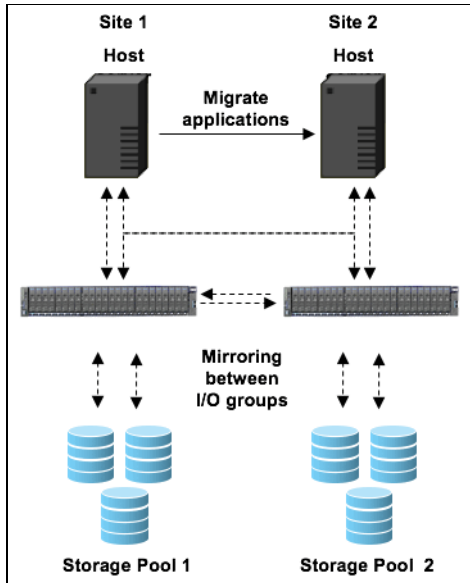

Figure 5-10 Overall HyperSwap diagram
HyperSwap is a system topology that enables Disaster Recovery (DR) and high availability between I/O groups at different locations. Before you configure HyperSwap volumes, the system topology must be configured for HyperSwap and sites must be defined. Figure 5-10 shows an overall view of IBM FlashSystem HyperSwap that is configured with two sites.